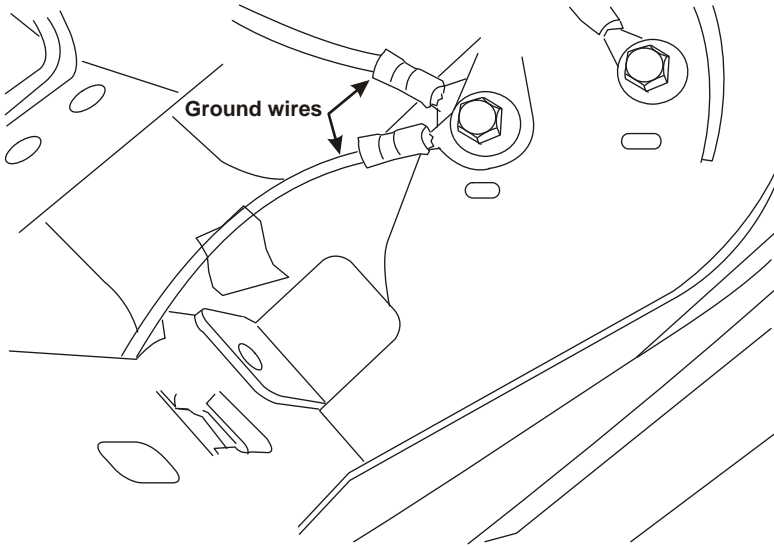

Figure 4.5
- Attach the green ground wire from the interface connector and the green wire from the throttle control box to an OEM ground bolt on the dash above the data link connector (Figure 4.5).